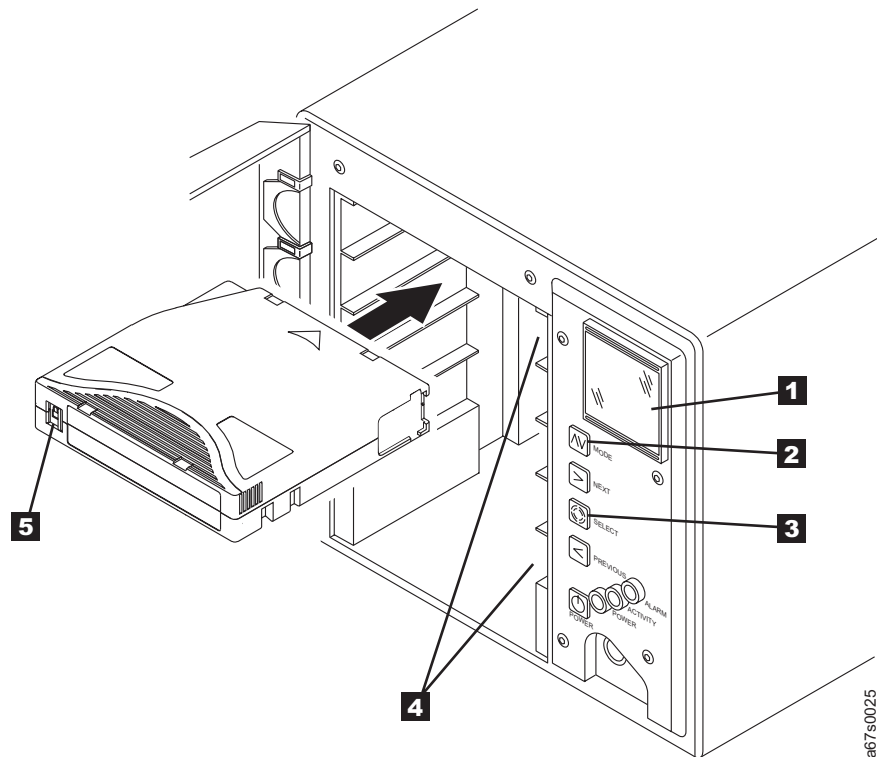

Figure 11. Inserting a cartridge into the 3581 Tape Autoloader
4. Ensure that the write-protect switch (see **5** in Figure 11) is properly set (see "Setting the Write-Protect Switch" on page 37).
5. Grasp the cartridge so that the write-protect switch faces you (see **5** in Figure 11 on page 25).